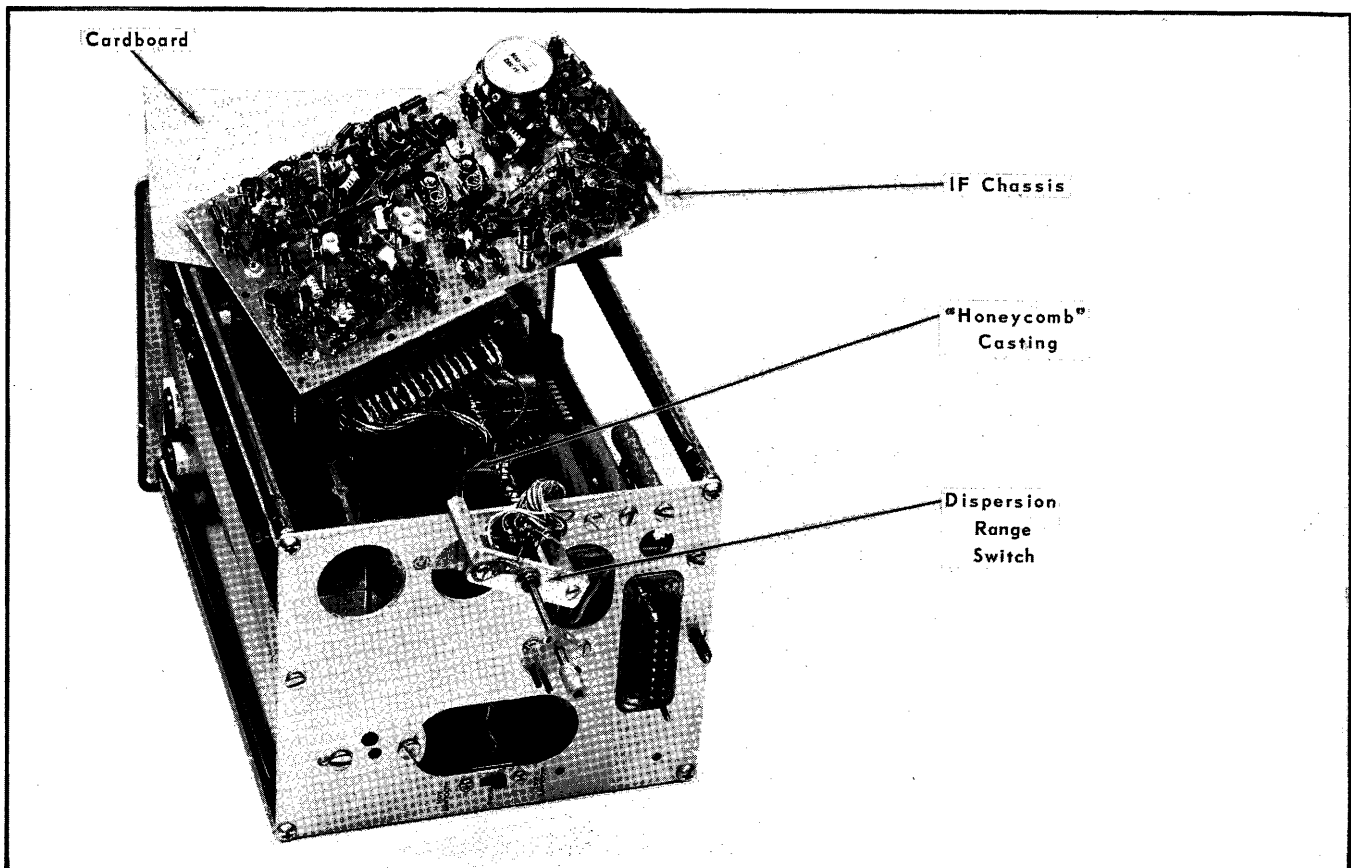

Fig. 4-2. Removing the IF Chassis.
4. Swing the chassis up and out to rest on the instrument's spacer bars (See Fig. 4-2). (It may be necessary to disconnect the coaxial cable from J147.) Do not use force, because some of the parts are critically positioned and should not be moved out of adjustment.